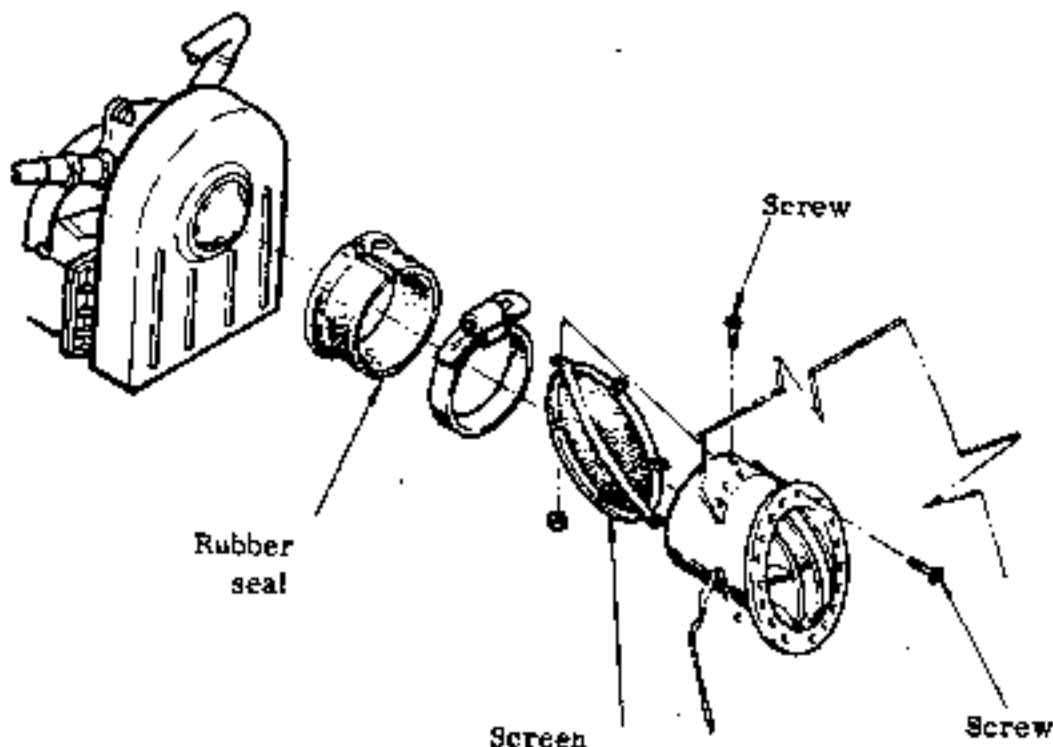

Fig. 8-7 Cooling air intake screen
2.11 COOLING AIR INTAKE SCREEN (See Fig. 8-7)